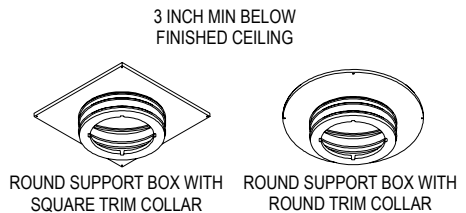
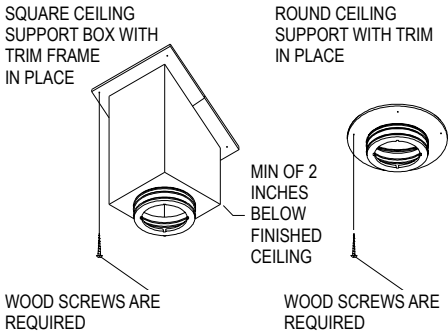

Figure 5
Figure 6
Support, refer to the Square ceiling installation below. The Round Ceiling Support Box has the option of a square or round Trim Collar available (Fig 5). The bottom of the Round Support Box must extend at least 3 inches below the finished ceiling. Level the Support Box and secure it to the framing using at least three 8-penny nails per side (min. of 12 total). Alternatively, you may use 1-1/2" #8 wood screws (min. of 12 total), instead of nails.
Next, secure the Trim Collar (round or square) to the framing members using the (4) 1" long, round-head wood screws provided (Fig 6). For installation into a cathedral ceiling, you must use the Square Ceiling Support Box or Reduced Clearance Support Box (or the CAS Ceiling Support if installing the CAS system) and the two-piece Trim. The bottom of the square portion of the Support Box must be a minimum of 2-inches lower (round portion is an additional 3 inches lower) than the finished ceiling at the lowest side of the penetration (Fig 5 & 6). Level the Support Box and secure it to the framing using at least three (3) 8-penny nails per side (minimum of 12 nails total), or a minimum of (3) #8, 1-1/2" wood screws. Adjust the overlapping "U-shaped" Trim pieces so they cover the Support Box, and secure them to the framing members using the (6) 1-1/4" long, round head wood screws provided (see Fig 6).